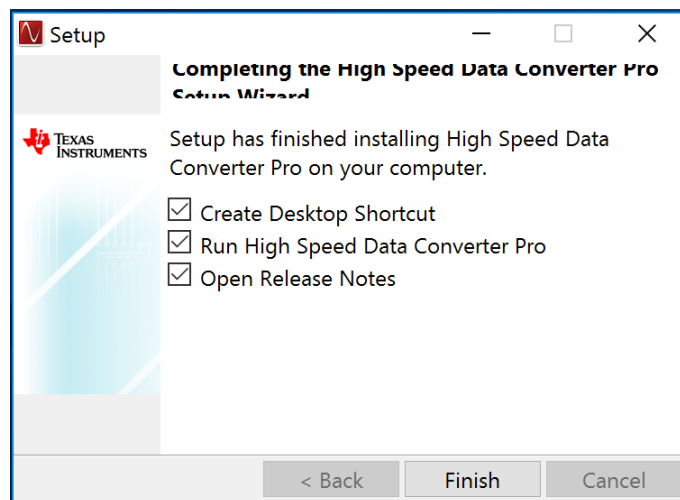

Figure 30. HSDC Pro Install (Finish Installation)
- Finish HSDC Pro installation by choosing the appropriate installation options and pressing *Finish*, as in Figure 30.